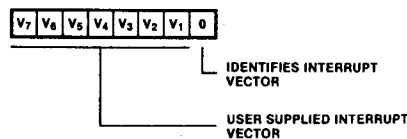

Figure 7. Interrupt Vector Word
**Interrupt Vector Word** (Figure 7). The Z80 PIO is designed for use with the Z80 CPU in interrupt Mode 2. This word must be programmed if interrupts are to be used.